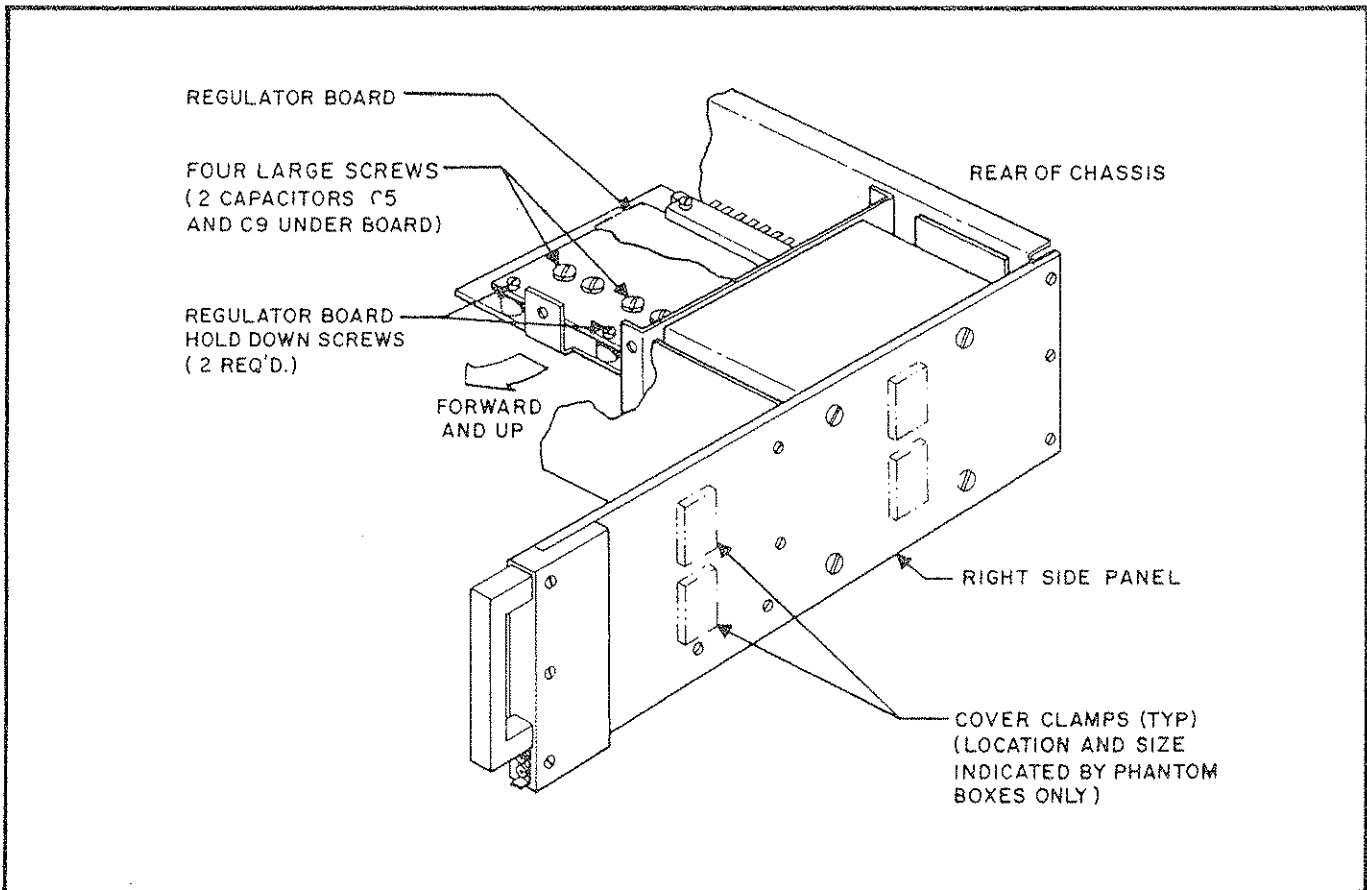
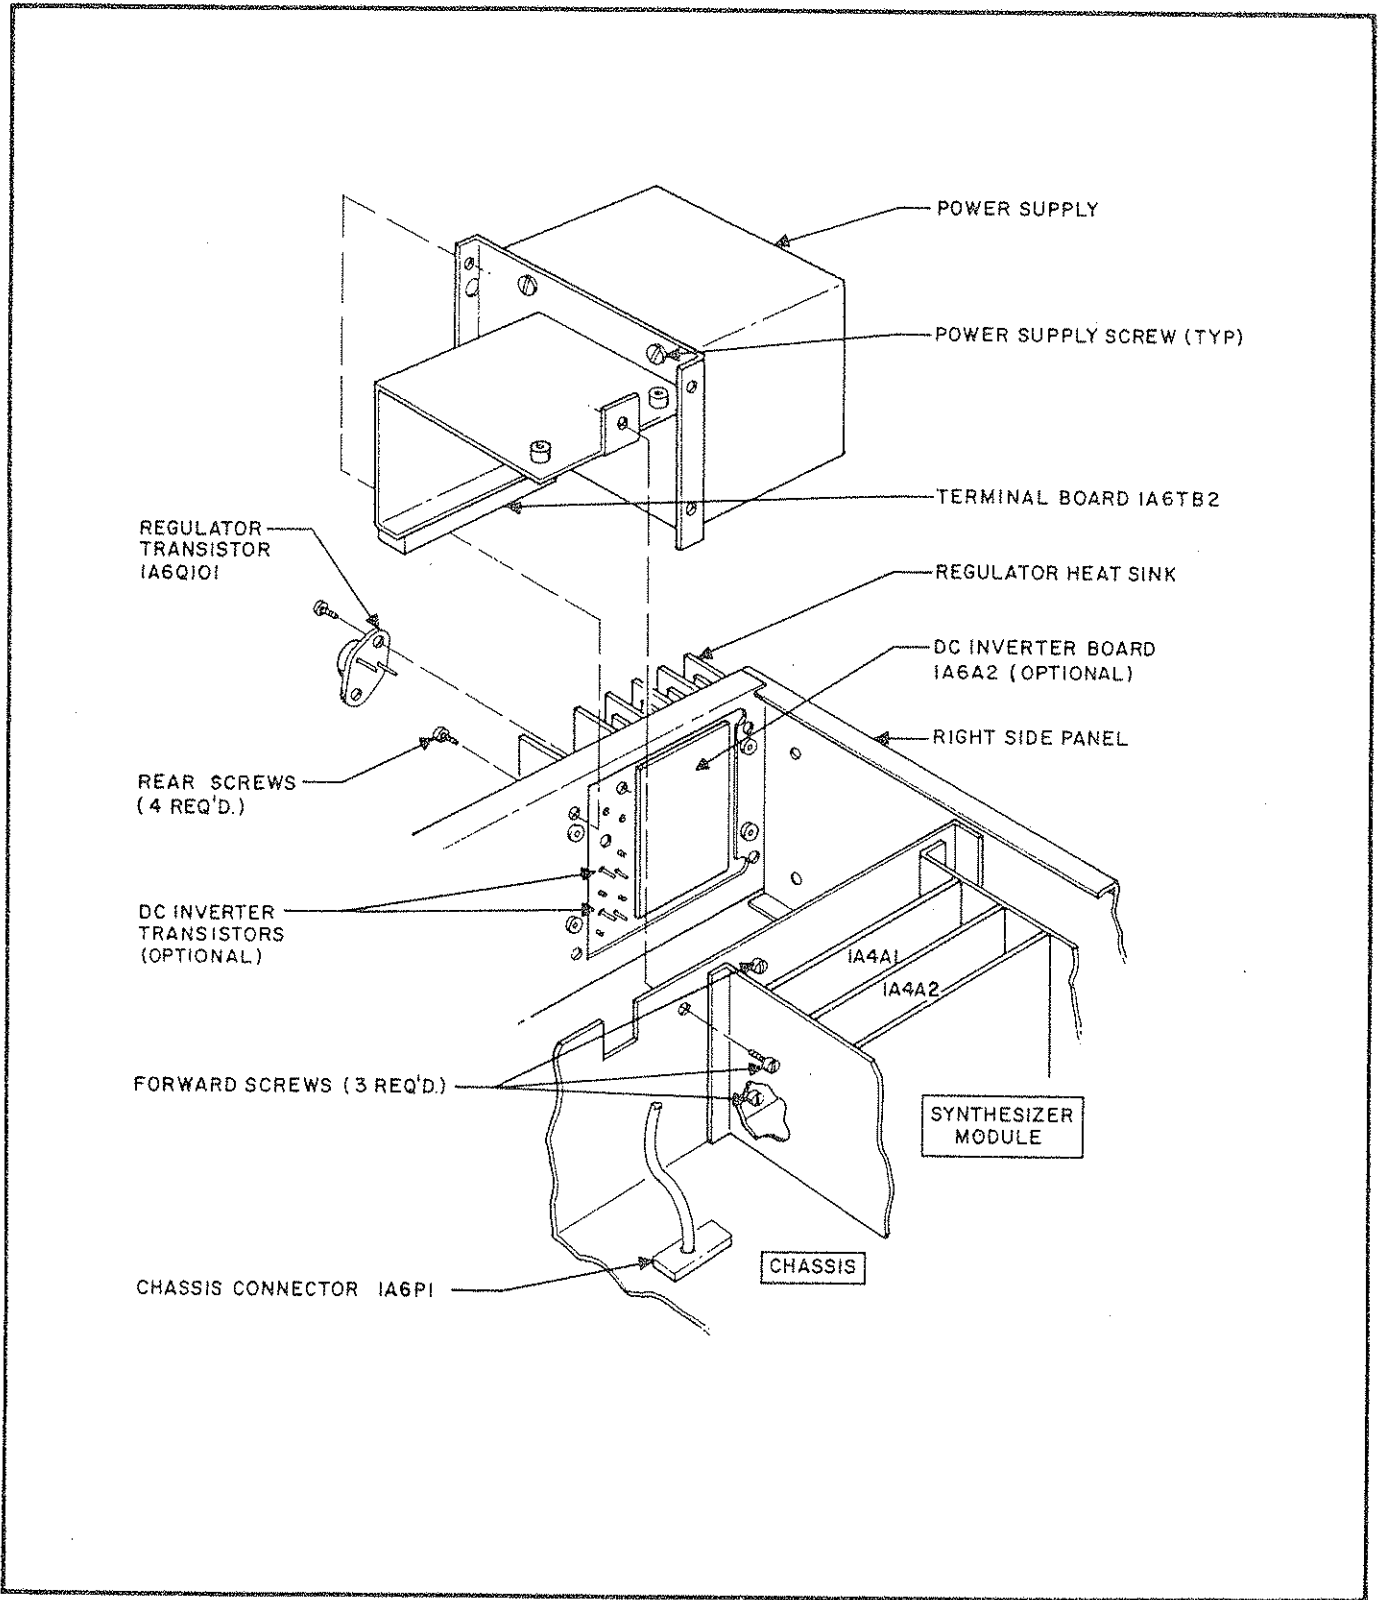

Figure 5.2 Power Supply Regulator Board (1A6A1)
Figure 5.3 Power Supply Removal (1A6)
5.8.3.2 To remove Regulator board (1A6A1), take out four large screws holding two capacitors (1A6A1-C5 and C9) as shown in Figure 5.2. Next, unfasten two hold down screws and pull the board forward and slightly upward to remove.
5.8.3.3 To take out the entire power supply from the chassis, remove only the screws, shown in Figure 5.2, from the RIGHT SIDE PANEL. DO NOT remove the cover clamps and their associated hardware. Unplug the connector, 1A6P1, from the chassis as illustrated in Figure 5.3. Re-